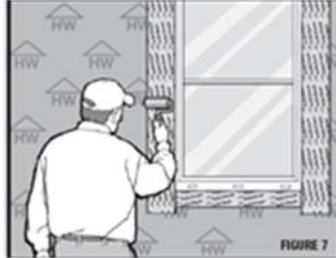

Figure 7
- 4.3.1 Roll smooth to ensure air bubbles are removed and intimate contact is made between substrates (Figure 7).